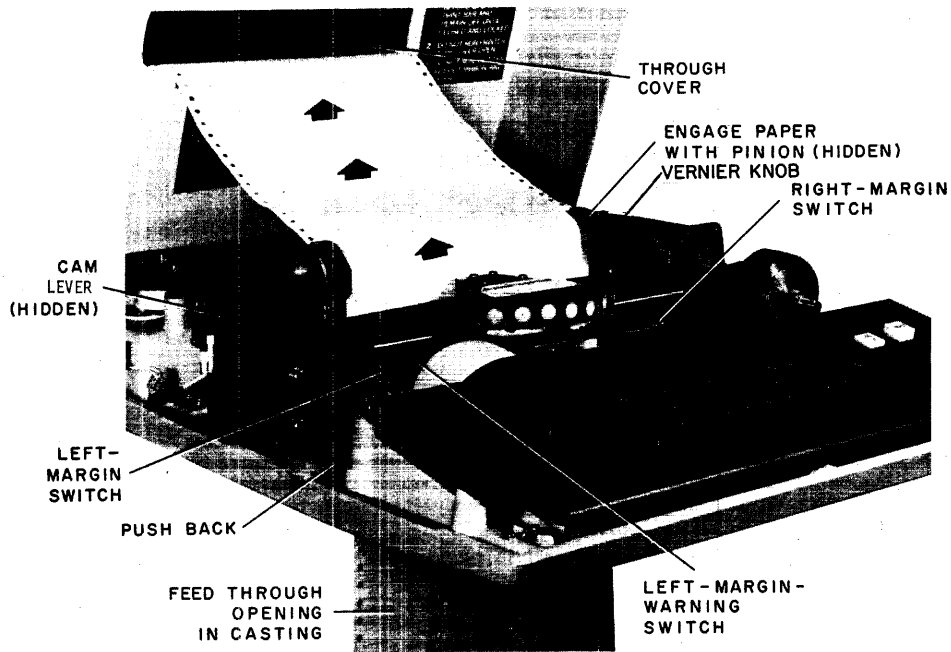

Figure H-10
4. Feed the paper from its box on the floor under the DECwriter up through the opening in the bottom of the base casting (Figure H-10). Pull the fresh supply into the machine and discard any remnants of the old supply.